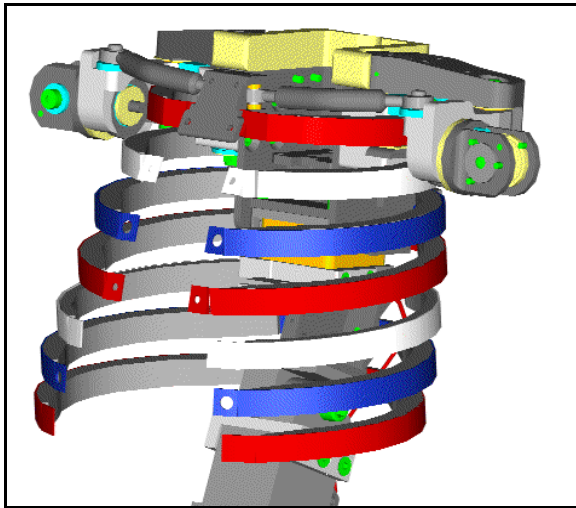

Figure 7.10- Complete rib assembly (front)
14. Position Elliptical Rib #7 (T1TXM370) and Elliptical Rib Stiffener #7 (T1TXM016) on the back of the upper thoracic spine weldment and secure with two 5/16-24 x 1/2" BHSCS-NP {3/16}. The completed rib assembly is shown in **Figures 7.10** and **7.11**.